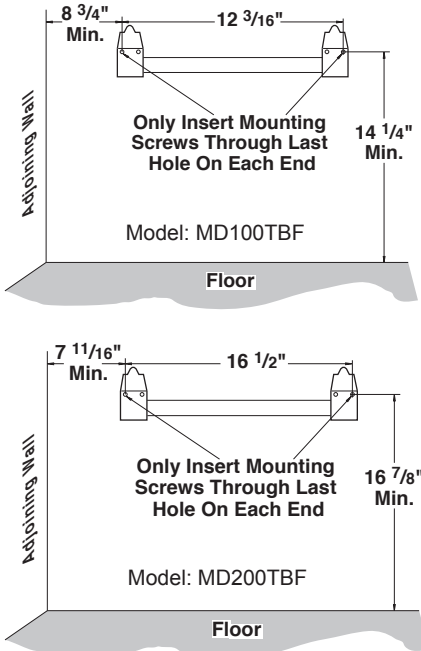

Figure 6 - Mounting Bracket Clearances
2. Mark screw locations on wall (see Figure 6).